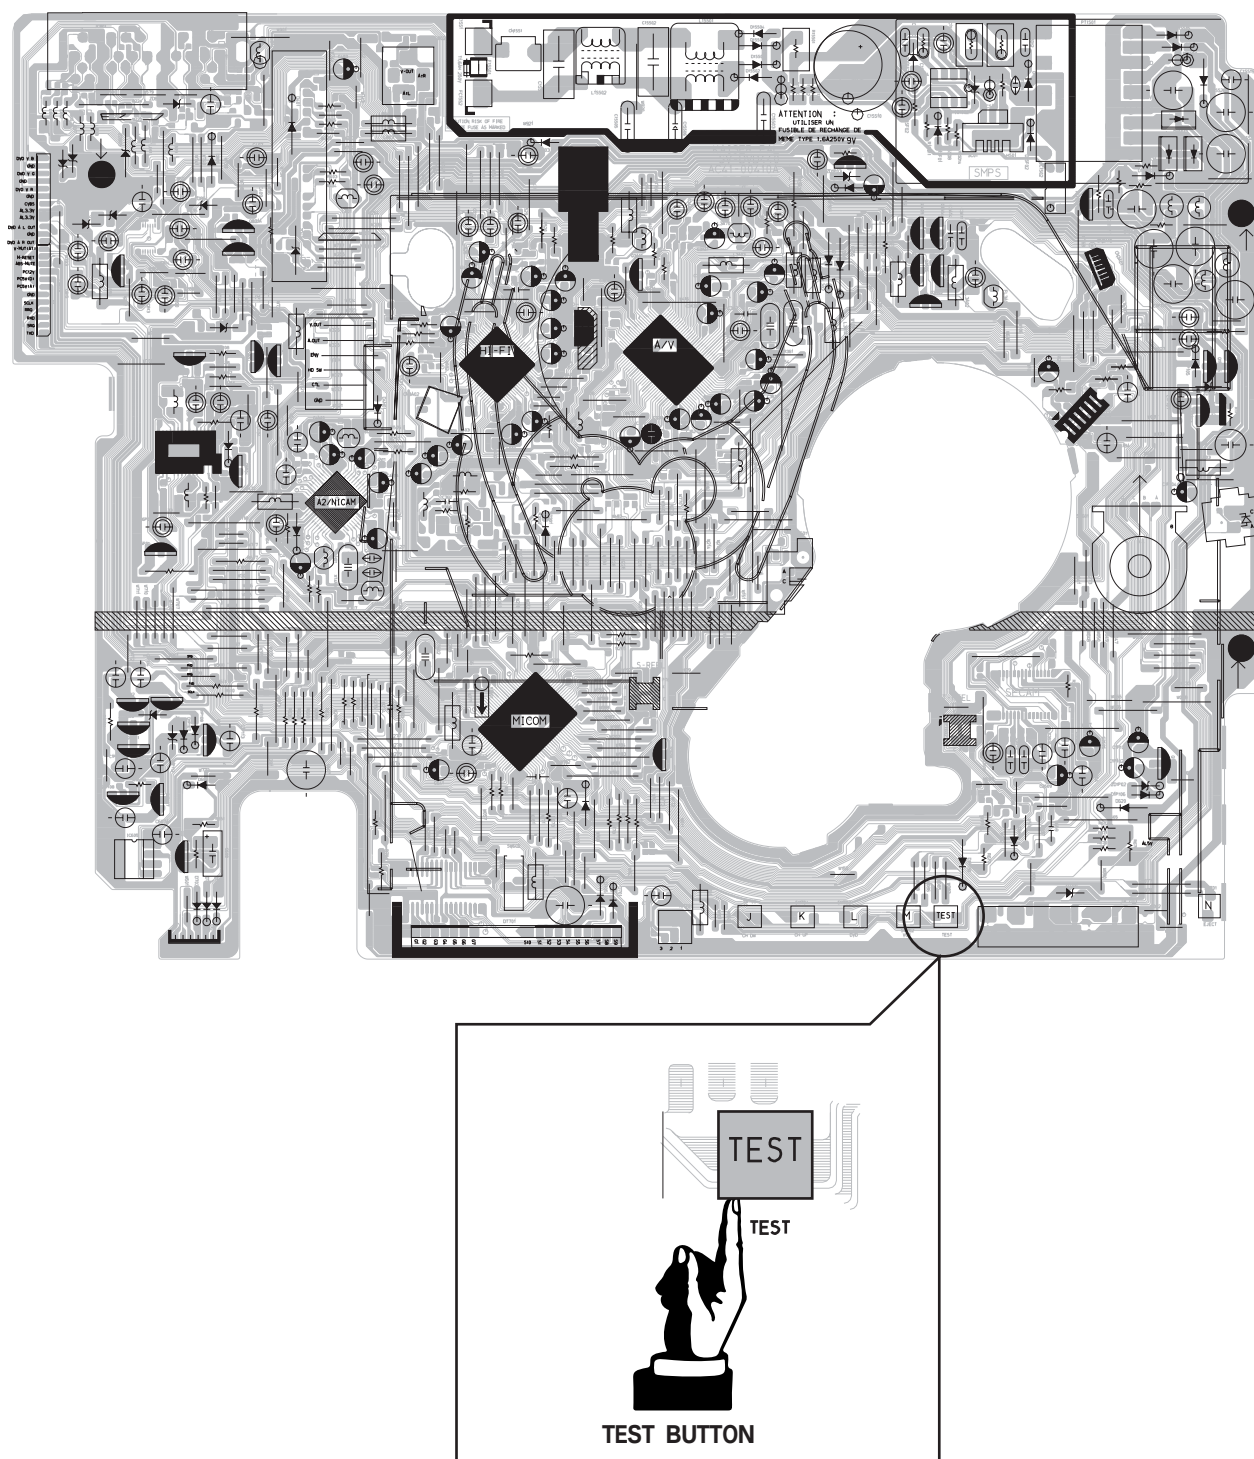

Fig. 6-2 VCR Main PCB (Top View)
- 2) Press the "TEST" button on VCR MAIN PCB to set the adjustment mode. (See Fig. 6-2)
- 1) Press the "TEST" button on VCR MAIN PCB to set the adjustment mode. (See Fig. 6-2)